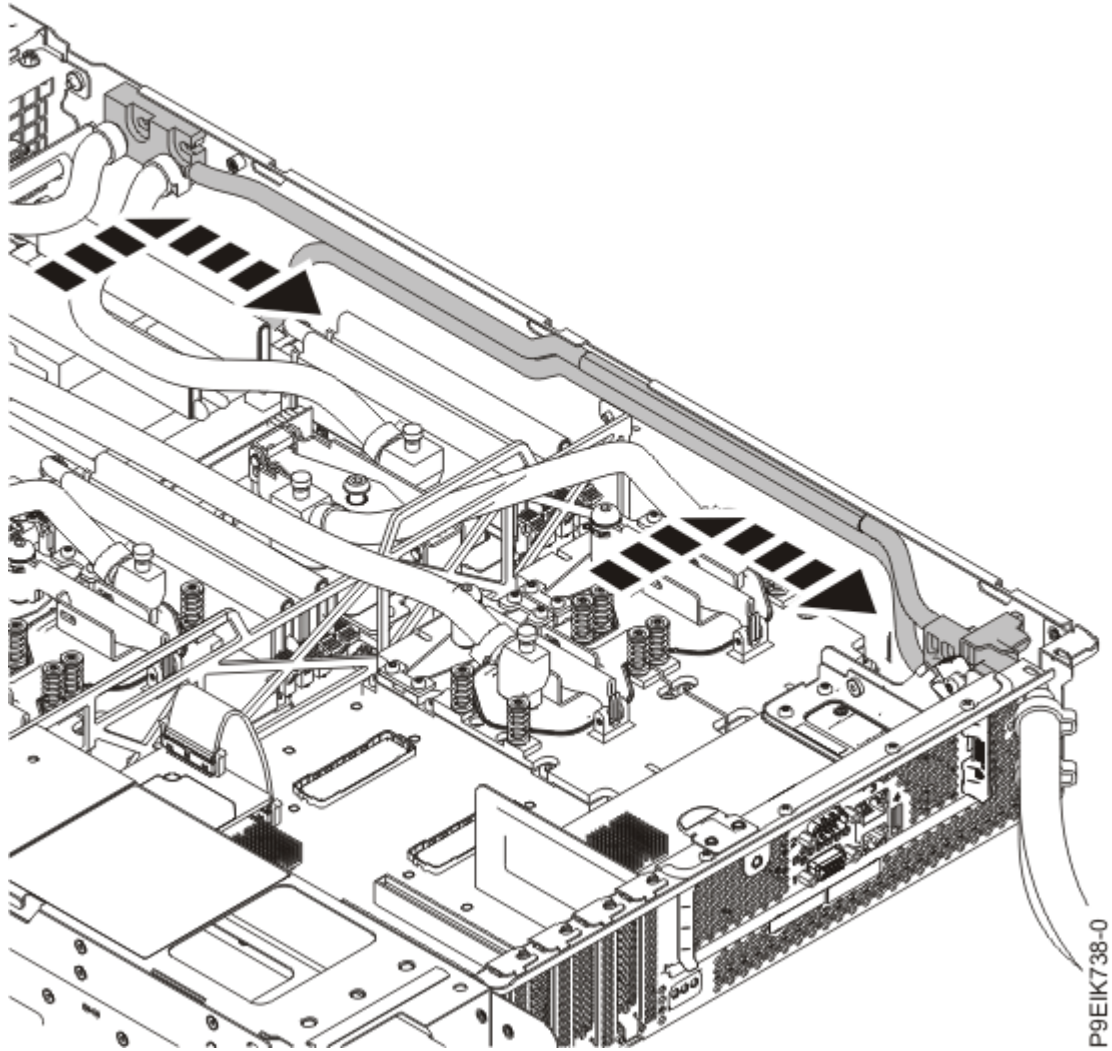

Figure 58. Inserting the side pipes
11. Replace the side pipes into the side of the chassis as shown in Figure 58 on page 60. Ensure the rear of the pipe slides into its position. Ensure that the alignment pin at the front of the side pipe is in the pipe junction.